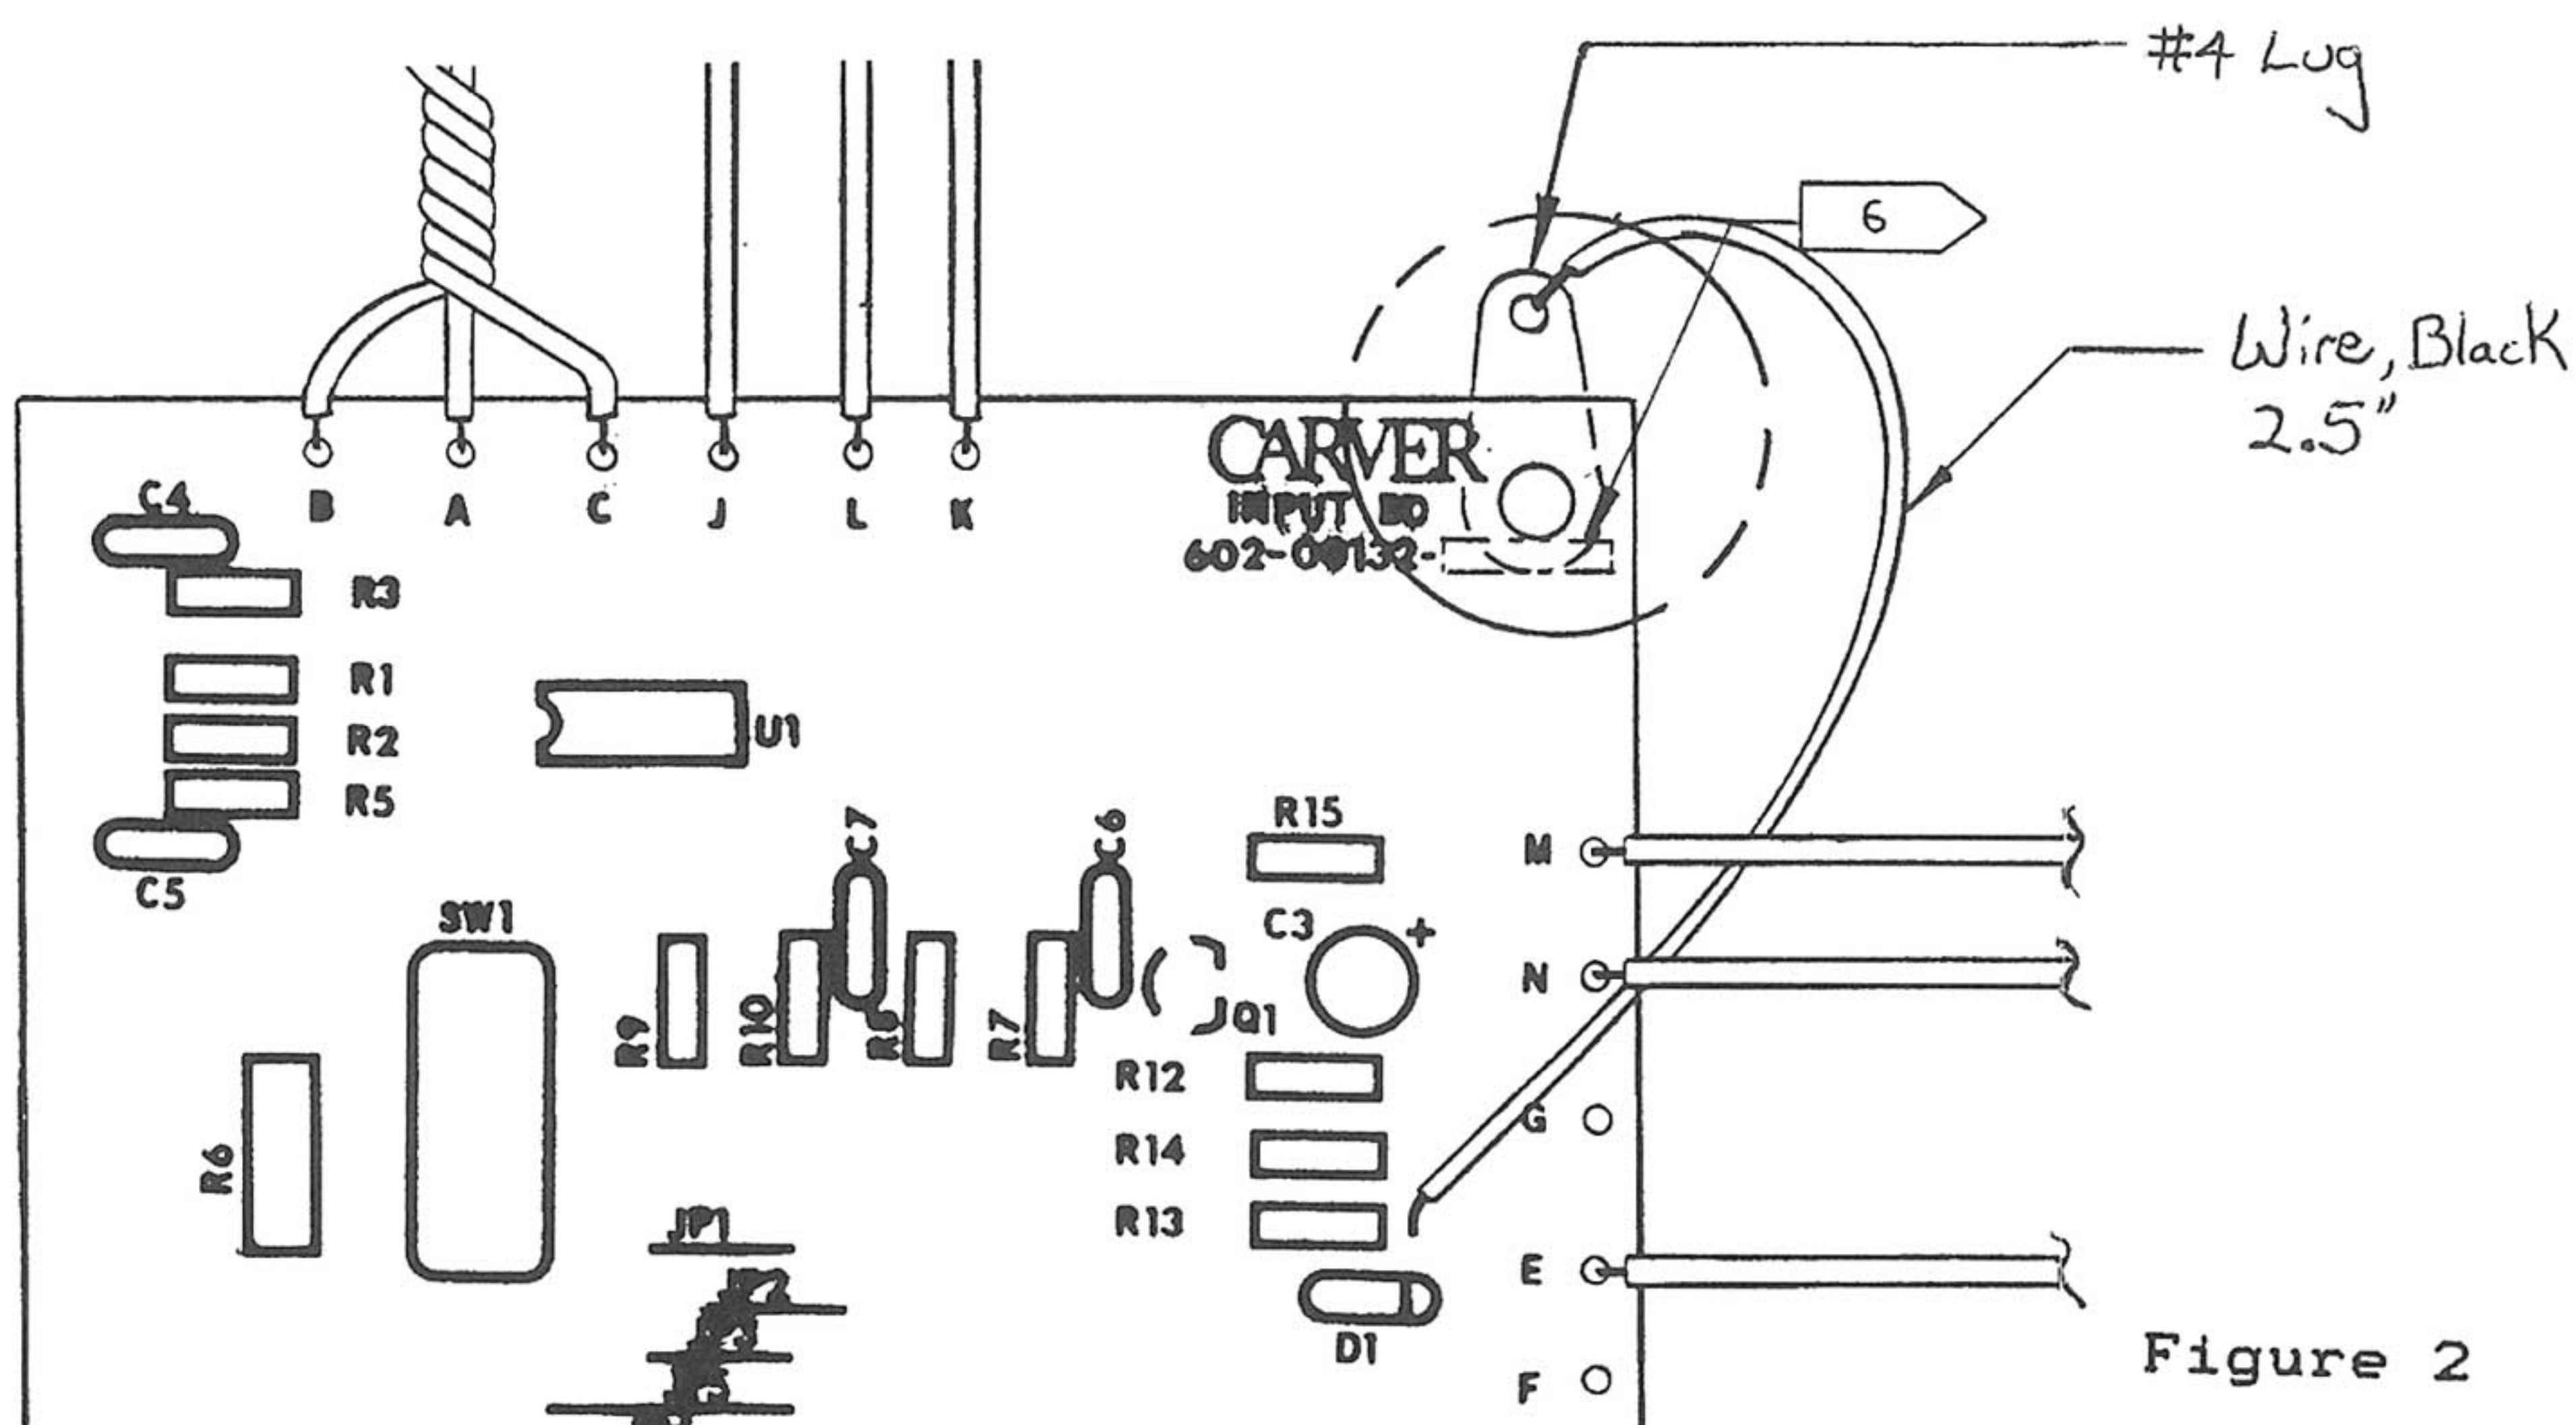

Figure 2
5. Solder one end of 2.5" 22AWG black wire (401-10636-00) to #4 solder lug (111-20001-00) and the other end to the ground side of R13 (side nearest edge of board). See Figure 2.